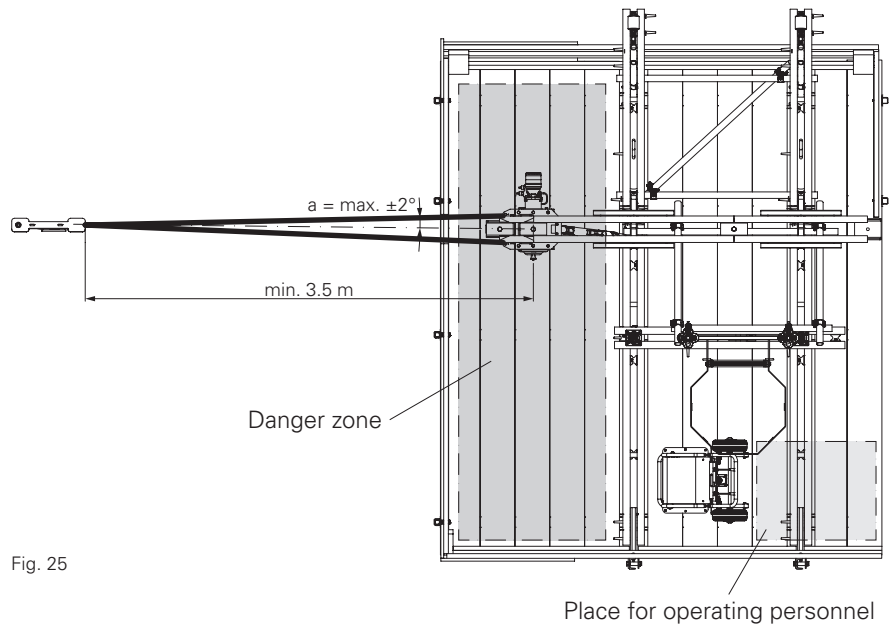

Fig. 25
- Move the parapet track a maximum of 3.50 m in front of the tension point with a right-angled tension axis. (Fig. 25)
⇒ During the relocation procedure, no one is allowed to be in the danger zone in case the cable breaks etc. (Fig. 25)
- When relocating within the bridge radius, observe the permissible diagonal pull "a" of $\pm 2^\circ$ to the tension axis. (Fig. 25)
- During the relocation procedure, only operating personnel are allowed to remain on the platform. (Fig. 25)